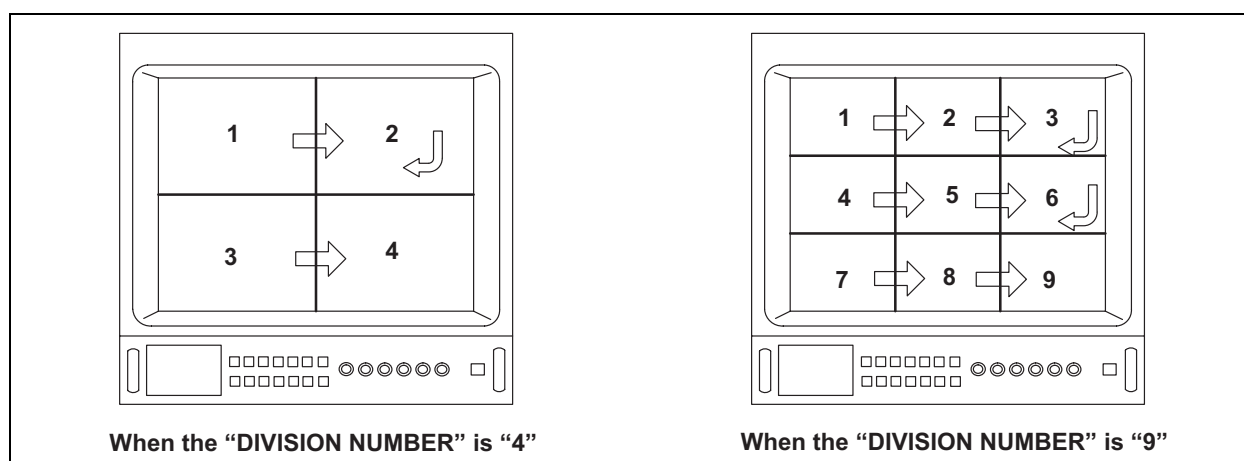

Figure 5.132
2. Pressing the remote control switch toggles between turning the strobe images on and off (see Figure 5.132).
Strobe images are displayed in the order No.1 to No.4 (When the “DIVISION NUMBER” is “4”) or No.1 to No.9 (When the “DIVISION NUMBER” is “9”) shown in Figure 5.132.
2. Pressing the "B.O.D." key toggles between turning the strobe images on and off (see Figure 5.132).